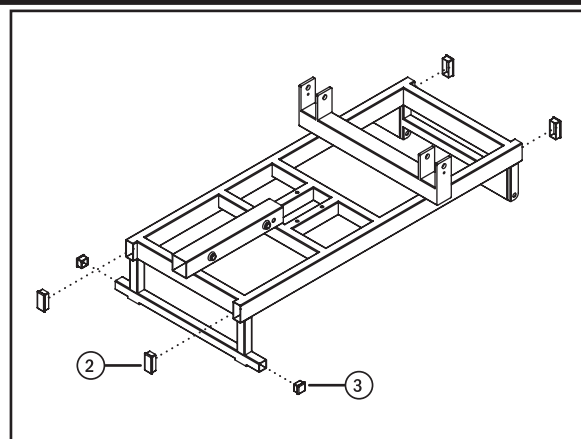

Fig. 2
Step 5: Install the plastic plugs on the frame. By hand, insert the Plastic Plugs (2 & 3) into their respective holes, as shown in Fig. 2. Use a rubber mallet or dead blow hammer so they sit flush to the frame.
Step 6: Install the Trundle Axles and Pivot Pin. Install both Trundle Axles (16) onto the Main Frame (1) using the Axle Pivot Pin (21), and Cotter Pin (21). Secure the Pivot Pin in place by using the M8 Bolt (40), Washer (38), Lockwasher (39) and Self Locking M8 Nut.